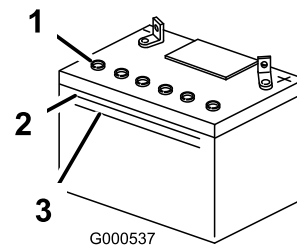

Figure 42
- Look at the side of the battery. The electrolyte must be up to the **upper** line (Figure 42). Do not allow the electrolyte to fall below the Lower line (Figure 42).
- Remove the vent caps from the battery (Figure 42).
- Slowly pour distilled water into each battery cell until the electrolyte level is up to the Upper line (Figure 42) on the battery case.
5. Wait five to ten minutes after filling the battery cells. Add distilled water, if necessary, until the electrolyte level is up to the Upper line (Figure 42) on the battery case.